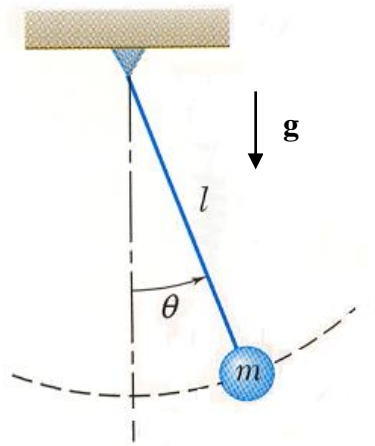

Figure 1.1 The mathematical pendulum
The so-called simple or mathematical pendulum consists of a point mass  $m$  swinging at the end of a mass-less inextensible cord of length  $L$ . In this exercise, the motion is restricted to a single vertical plane along a circular arc defined by the angle  $\theta$ , as shown in Figure 1.1. We are going to study how changes in the length  $L$  of the cord and the mass  $m$  affect the period time of the oscillation of the pendulum.
- Draw a free body diagram of the pendulum in Figure 1.1.